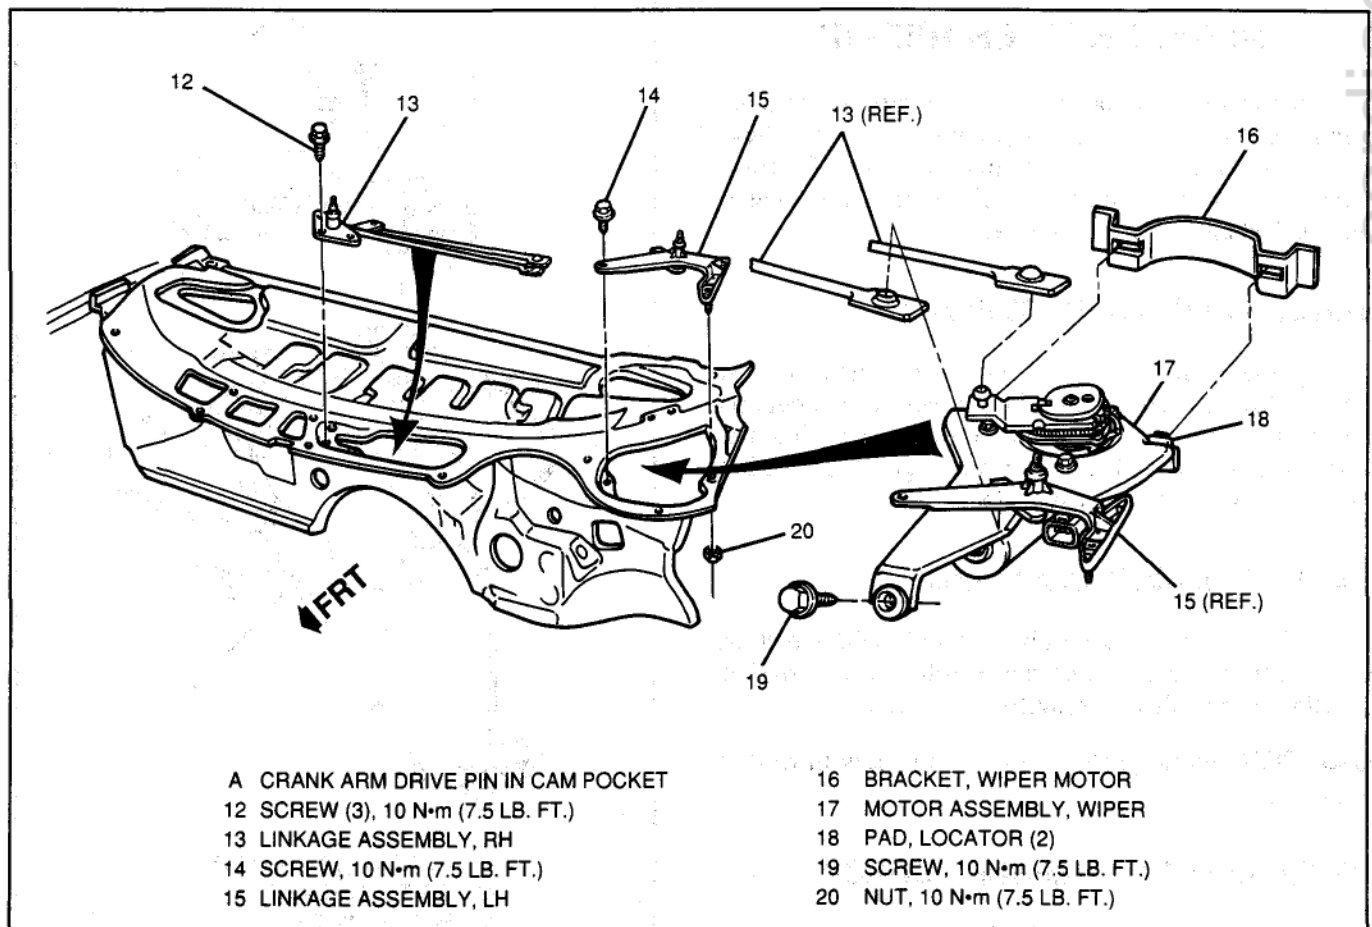
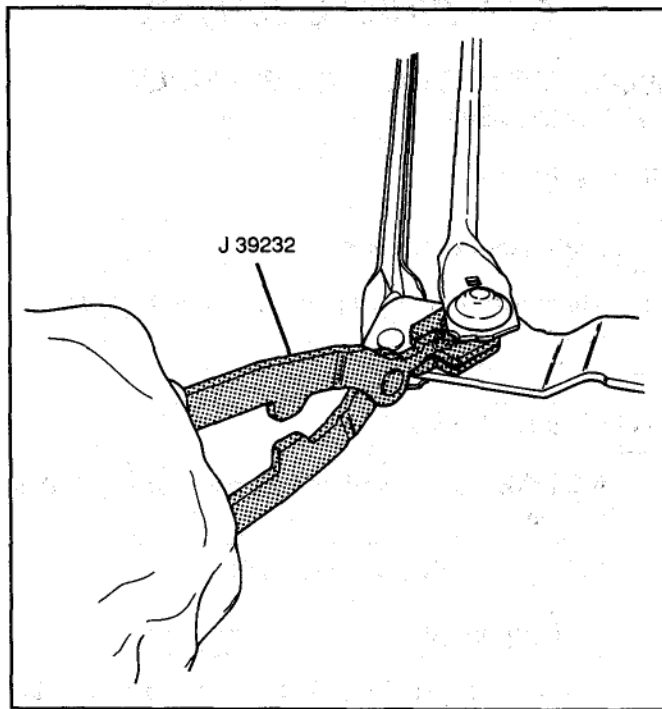
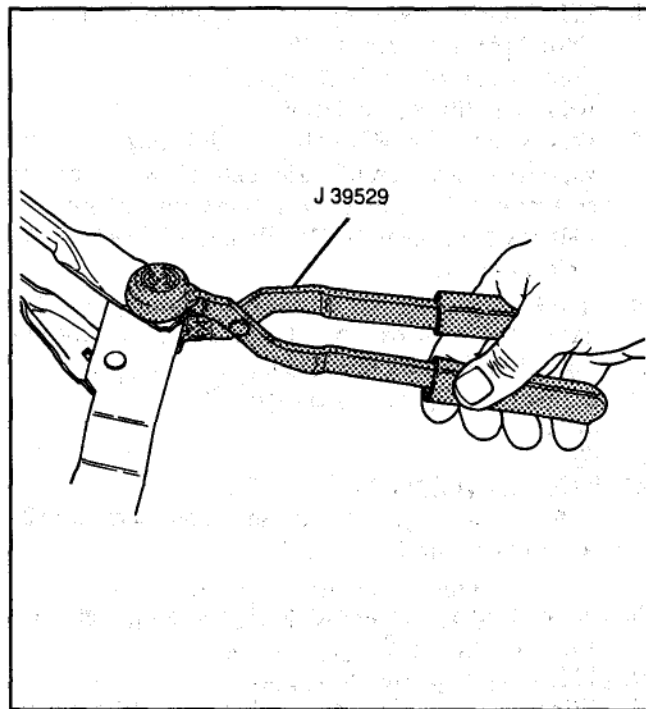

Figure 17 - Linkage and Wiper Motor Assemblies
Figure 18 - J 39232 Wiper Linkage Separator (Typical Usage)
Figure 19 - J 39529 Wiper Linkage Installer (Typical Usage)
5. Electrical connector from wiper motor assembly (17, Figure 17).
6. Screw (14) and nut (20).
7. Socket of RH linkage assembly (13) from ball of LH linkage assembly (15) using J 39232 (see Figure 18).
9. Screw (19, Figure 17).
10. Pull wiper motor assembly free from slots of bracket (16).
11. Socket of RH linkage assembly from crank arm ball of wiper motor assembly using J 39232 (see Figure 18).
- When installing wiper motor assembly, make certain that the crank arm is in inner wipe position as shown in Figure 17. The crank arm drive pin must be engaged in the cam pocket.
1. Press socket of RH linkage assembly (13) into engagement with crank arm ball of wiper motor assembly (17) using J 39529 (see Figure 19).
2. Wiper motor assembly (17, Figure 17) with two locator pads (18) pressed fully into slots of bracket (16).
3. Screw (19).
- Screw (19) to 10 N•m (7.5 lb. ft.).
4. LH linkage assembly (15) without attaching parts.
5. Press socket of RH linkage assembly into engagement with ball of LH linkage assembly using J 39529 (see Figure 19).
6. Attach LH linkage assembly with screw (14, Figure 17) and nut (20).
4. Screw (14, Figure 17) and nut (20).
5. Socket of RH linkage assembly (13) from ball of LH linkage assembly (15) using J 39232 (see Figure 18).
7. Three screws (12, Figure 17).
8. Socket of RH linkage assembly from crank arm ball of wiper motor assembly (17) using J 39232 (see Figure 18).
1. RH linkage assembly (13, Figure 17) through slotted plenum access hole.
2. Three screws (12) finger tight.
4. Press socket of RH linkage assembly into engagement with crank arm ball of wiper motor assembly (17) using J 39529 (see Figure 19).
5. LH linkage assembly (15, Figure 17) without attaching parts.
6. Press socket of RH linkage assembly into engagement with ball of LH linkage assembly using J 39529 (see Figure 19).
7. Screw (14, Figure 17) and nut (20).
- Screw (14), nut (20) and three screws (12) to 10 N•m (7.5 lb. ft.).
8. Washer hose assembly to LH cowl panel and washer nozzle (10).